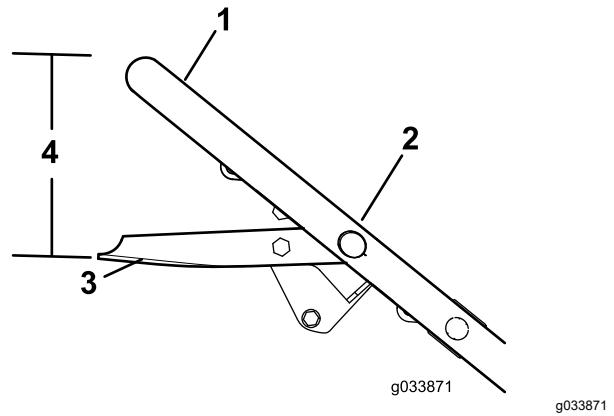

Figure 30
3. Hold the blade-control bar at 19 cm (7-5/8 inches) from the top of the handle as shown in Figure 30.